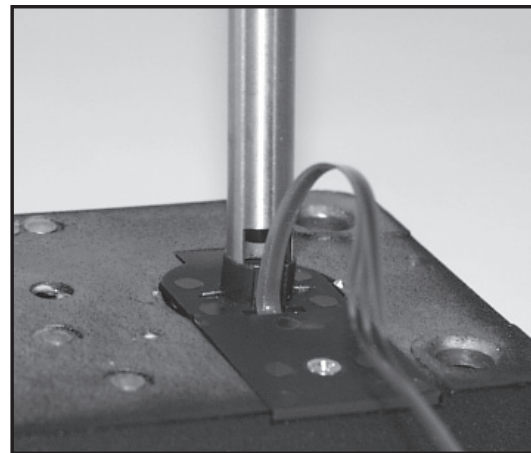

Figure 11 - Seat Inner Tube in Retainer
1. Place the inner tube into the lock case tube retainer. Make sure that the cutout in the tube aligns with the cables and allows the tube to seat completely in the tube retainer. (See Figure 11.)